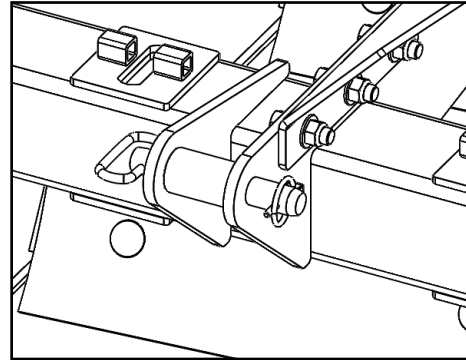

Fig. 9 (Lower link with hitch pin and bushing)
9. See figure 9. Assemble the two lift arm bushings onto the land plane. Place the bushing between the two arms and insert the hitch pins from the outside direction of the land plane in.